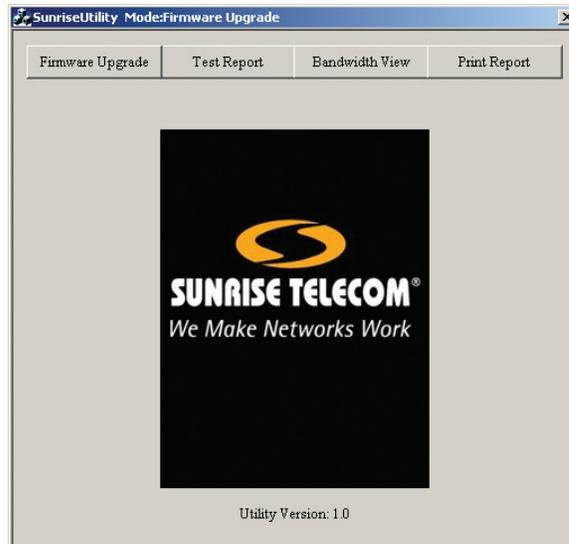

Figure 17 Sunrise Utility Window
8. On the PC, locate SunriseUtility.exe in the GigEResponder folder and double click it. The window in Figure 17 is displayed: